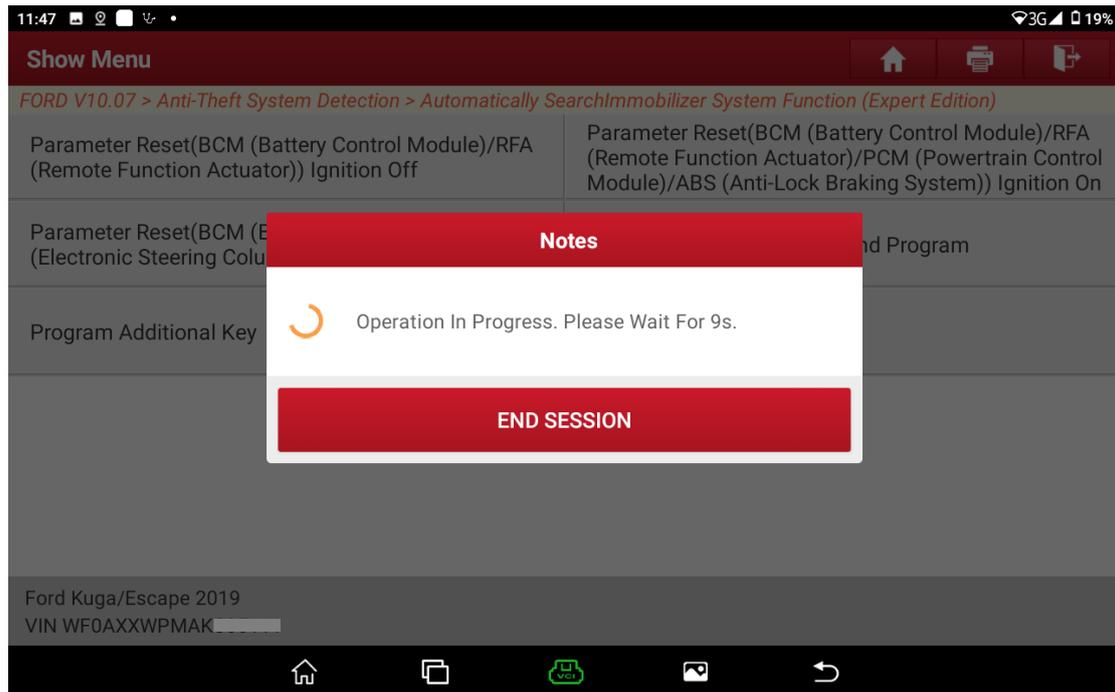

Figure 17
15. Count down from 10s. See Figure 17.